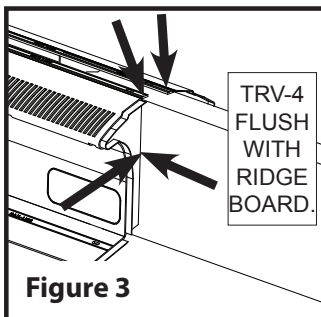

Figure 3
- Install the ridge board to the proper height based on the supplied Ridge Board Height Gauge. (See Figure 1) It is VERY important that the TRV-4 vent is flush against the ridge board to allow proper air flow and sealing. (See Figure 3)